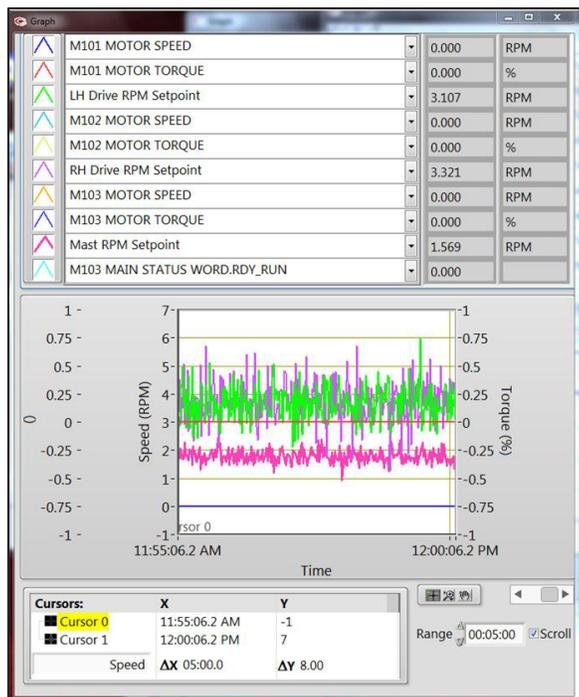

Figure 5: Example Graphical User Screen
The operator can also dynamically launch multiple graphs. For a particular test, the operator can save the graph/channel window look and feel and then load the same view for the next test. Up to ten (10) channels can be displayed graphically on one screen. The graph scale and the time dimension are also operator selectable. Figure 5 shows an example graphical user screen.